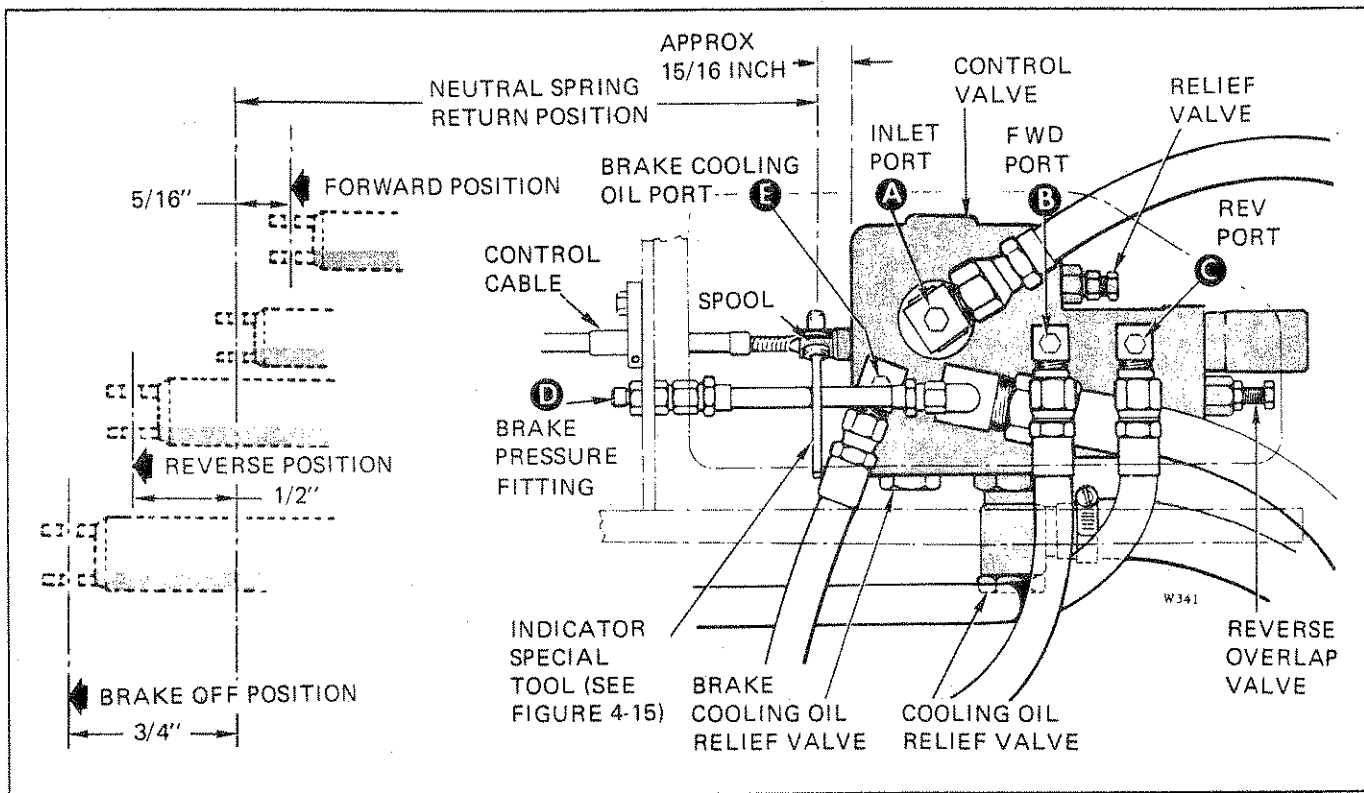

FIGURE 4-11. CONTROL VALVE SPOOL TRAVEL CHECK
o. Slowly move lever toward REVERSE until movement of control valve spool measures $3/8$ ($\pm 1/64$) inch travel from NEUTRAL (see Figure 4-11). Block or tie the handlever or apply clamp to valve spool to prevent control valve spool from returning to NEUTRAL.
- d. Move spool into body until it bottoms. This position is FORWARD and should be at 5/16-inch travel from NEUTRAL as shown in Figure 4-11. Pressure at port **(B)** should be 220 (± 10) PSI.
- e. Move spool out of body until the first stop is felt. This position is REVERSE and should be at 1/2-inch travel from NEUTRAL as shown in Figure 4-11. Pressure at port **(C)** should be 220 (± 10) PSI.
- f. Move spool out of body, past the stop felt in step **d**, into the detent lock-up position. This position is BRAKE OFF and should be at 3/4-inch travel from NEUTRAL as shown in Figure 4-11. Pressure at fitting **(D)** should be 220 (± 10) PSI.